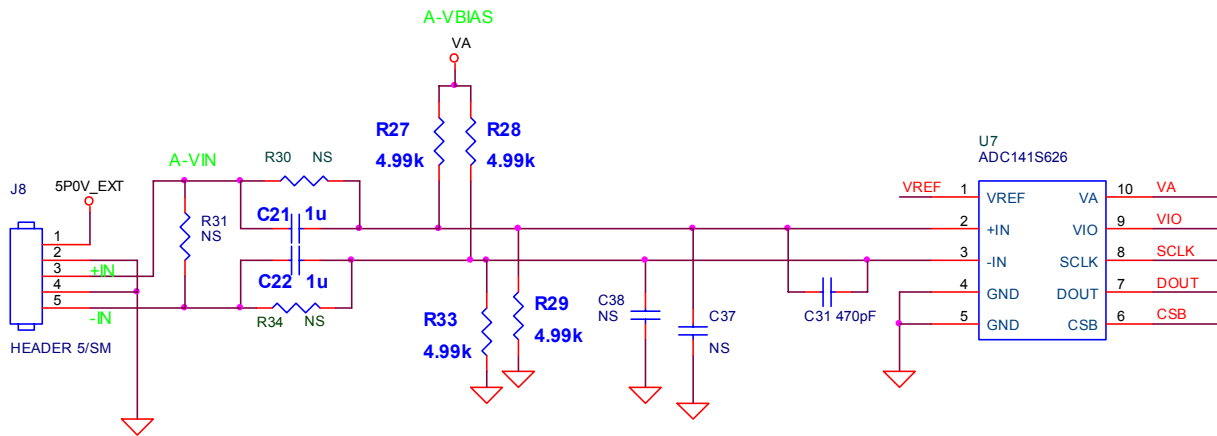

Figure 2 – Schematic to Drive ADC with an AC-Coupled Input Signal
- a. To create an ac-coupled input signal, stuff C21 and C22 with 1 μ F capacitors but leave R30 and R34 unpopulated. To shift the input signal above ground, stuff R27, R28, R29, and R33 with 4.99k Ω resistors. Figure 2 shows the schematic for driving for ADC input with an ac-coupled signal.
- a. To create an ac-coupled input signal, stuff C21 and C22 with 1 uF capacitors but leave R30 and R34 unpopulated. To shift the input signal above ground, stuff R27, R28, R29, and R33 with 4.99k Ω resistors. The schematic for this mode can be seen in figure 2.
Generating an ac-coupled input signal only requires stuffing capacitors C21 and C22 with 1uF capacitors. For signal generators that do not have an offset function, stuff resistors R27, R28, R29, and R33 with 4.99k Ω resistors to shift the ac-coupled input signal above ground. Leave resistors R30, R34, and capacitors C37 and C38 unpopulated. Refer to figure 2 to see the schematic for driving the ADC input with an ac-coupled signal.